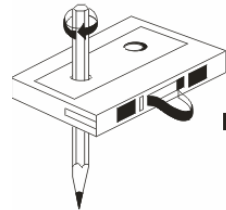

Fig.2
- b) Take up any loose layers, using a pencil or hexagonally barrellled ballpoint pen, before inserting the cassette (see fig. 2).
NOTES: If the cassette feels tight whilst performing this operation (see fig. 2), the tape may be jamming due to ridges formed in the winding of the tape (visible through the centre window). In most cases, these may be removed by **fast rewinding** of the cassette from one end to the other, turning it over and repeating this action again.